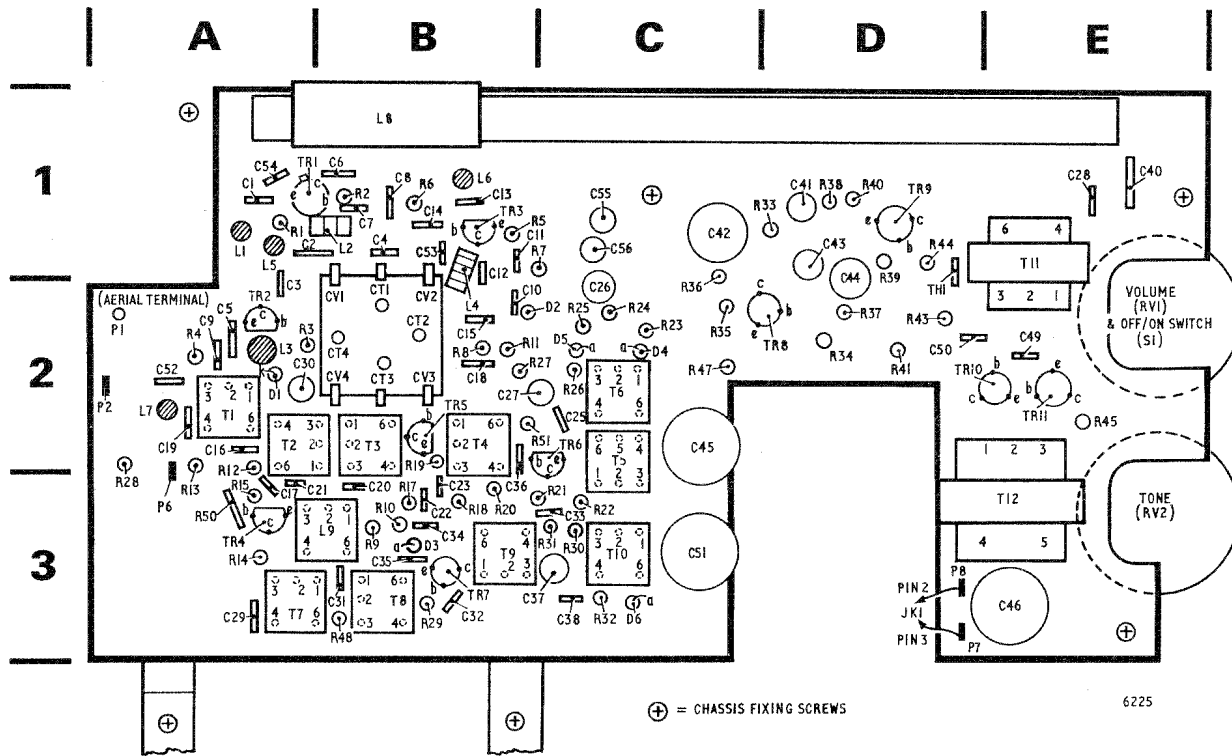

Fig. 4 Component layout
- 2 Unscrew the earphone socket from the cabinet back. Unplug the telescopic rod aerial lead which is plugged to the terminal P1 Fig. 4, location A2.
- 3 Remove the six chassis fixing screws. See Fig. 4.
- 4 For complete removal disconnect the negative battery lead and the earphone leads from the terminals P7 and P8 Fig. 4 location E3.
- Instrument connection:** (a) Sweep Generator output across tuning capacitor CV3 and terminal P2, in Fig. 4, location B2/A2.
(b) Oscilloscope input across terminals P6 and P2 (chassis) in Fig. 4, location A2/3.
- Instrument connection:** (a) Connect the output from Signal Generator across the terminals P1 and P2 Fig. 4, location A2.
(b) Connect the output meter and the Oscilloscope in parallel across the terminals P7 and P8 Fig. 4, location E3.